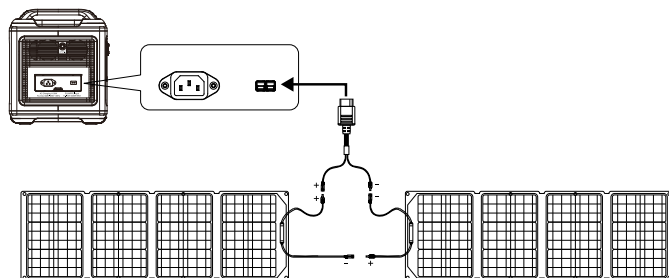

Figure 1: Solar charging setup
1. Set up your solar panels. See Figure 1: Solar charging setup [▶ 12].